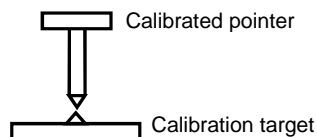

Figure 4.3
- A calibrated pointer mounted on the robot's flange (figure 4.3). The dimensions of the pointer must be entered in the menu Settings (F7) of the calibration wizard (figure 4.8).
- A calibration target that can be pointed to with the calibration pointer (figure 4.3). If you are using a vision system or equivalent: 1) make sure that the calibration target used to calibrate the vision system can be pointed to by the robot equipped with its calibrated pointer and 2) the calibration target is at the same high as the picking high of the parts.